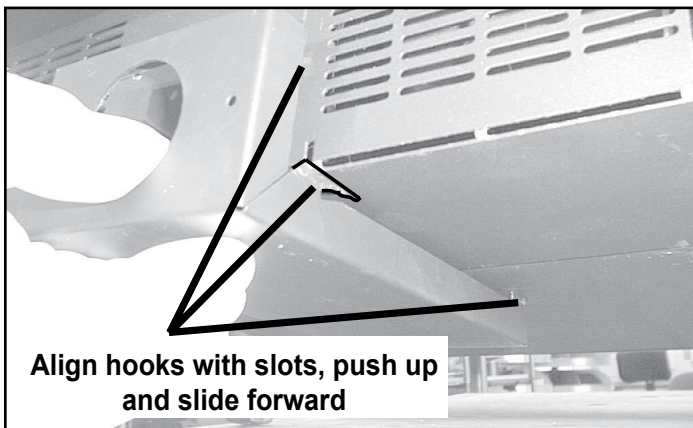

Figure 20.2
2. Align hooks in air channel with slots in convection blower mount and ash box (**Figure 20.2**). Push up and slide forward.